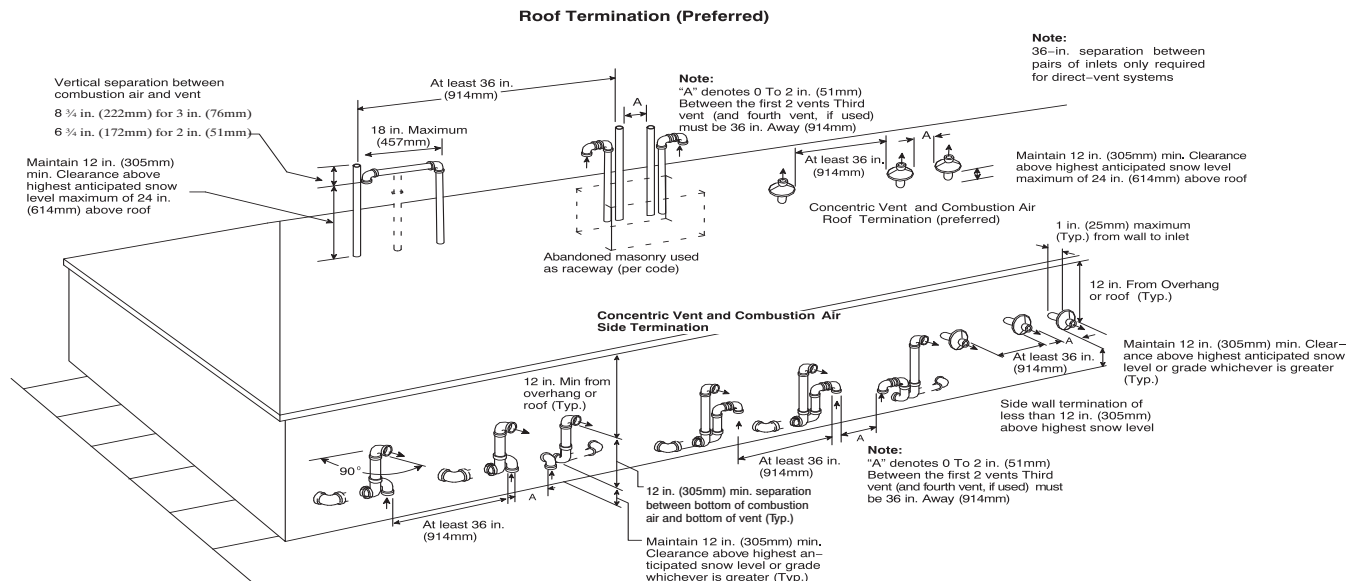
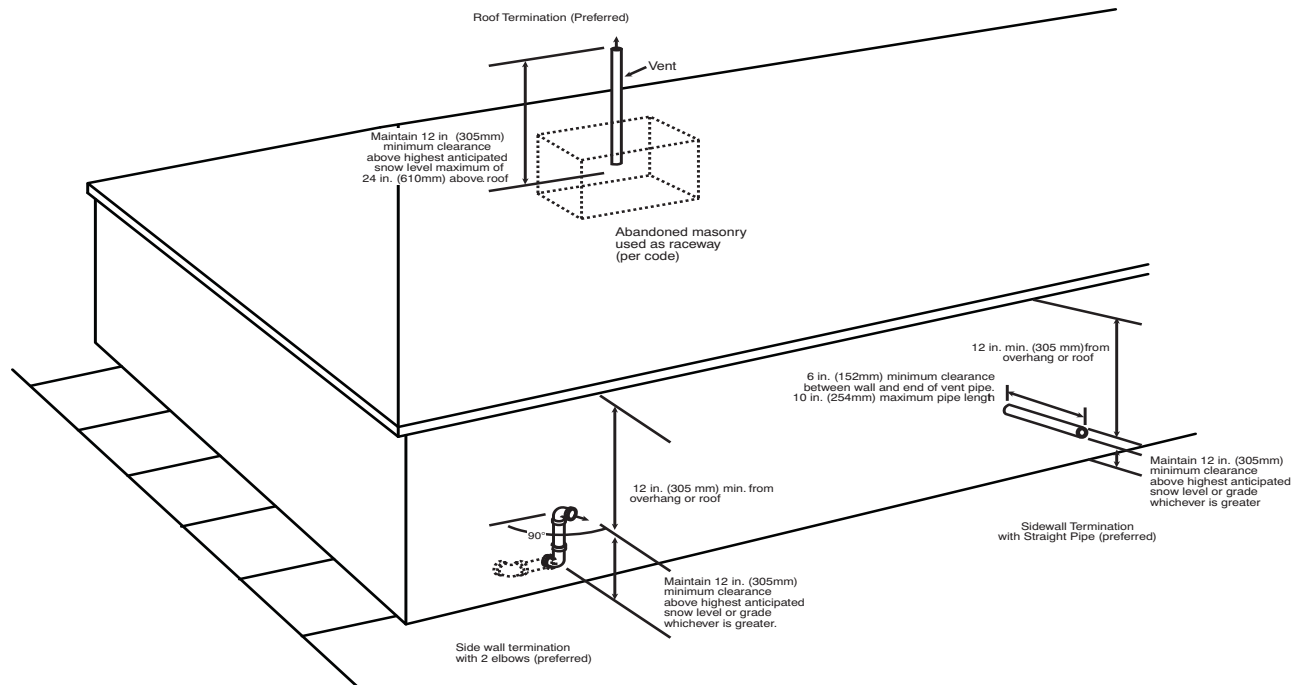
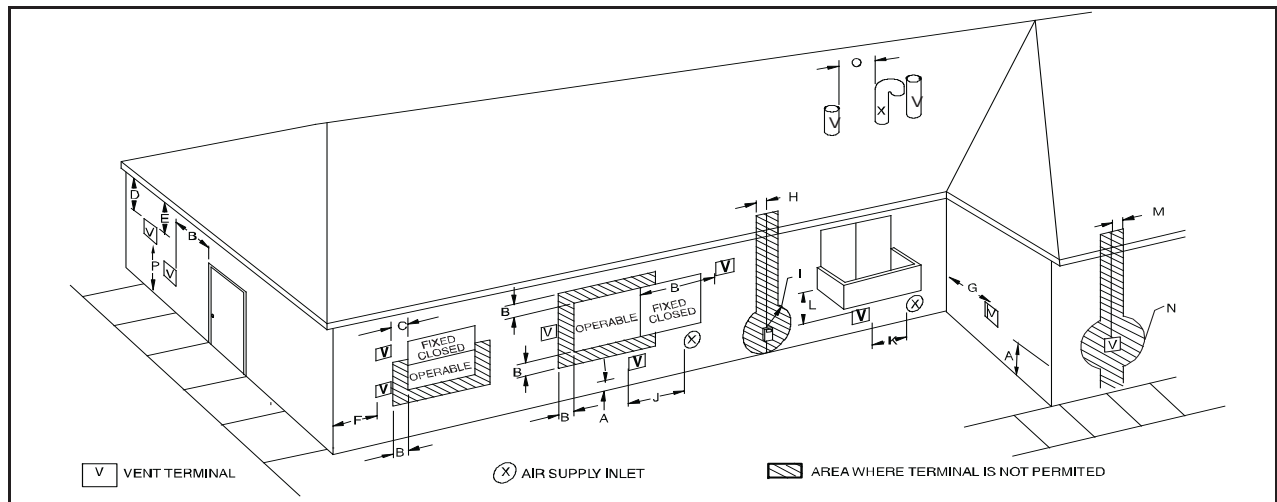

Fig. 39 – Combustion Air and Vent Pipe Termination for Direct Vent (2-Pipe) System
Fig. 40 – Vent Pipe Termination for Non-Direct Vent and Ventilated Combustion Air System
Fig. 41 – Direct Vent Termination Clearance
An abandoned masonry chimney may be used as a raceway for properly insulated and supported combustion-air (when applicable) and vent pipes. Each furnace must have its own set of combustion-air and vent pipes and be terminated individually, as shown in Fig. 39 for Direct Vent (2-Pipe) system, or Fig. 40 for single-pipe or ventilated combustion air option.
In a direct-vent (2-pipe) system, all air for combustion is taken directly from outdoor atmosphere, and all flue products are discharged to outdoor atmosphere. Combustion-air and vent pipes must terminate together in the same atmospheric pressure zone, either through the roof (preferred) or a sidewall. See Fig. 41 for references to clearances required by National code authorities.
For vent termination clearance, references to National codes are shown in Fig. 41 for Direct Vent/2-Pipe system and Fig. 42 for Ventilated Combustion Air/Non-direct Vent/1-Pipe system. For exterior termination arrangements, refer to Fig. 39 for Direct Vent/2-Pipe system and Fig. 40 for Ventilated Combustion Air/Non-Direct/1-Pipe system. Contact Local code authorities for other requirements to and/or exemptions from the National codes shown in the figures.
1. Comply with all clearance requirements stated in Fig. 41 or Fig. 42 per application.
Direct vent (2-pipe) vent and combustion air pipes must terminate outside the structure. See Fig. 41 For references to vent clearances required by National code authorities. Allowable vent and combustion air terminations are shown in Fig. 39.